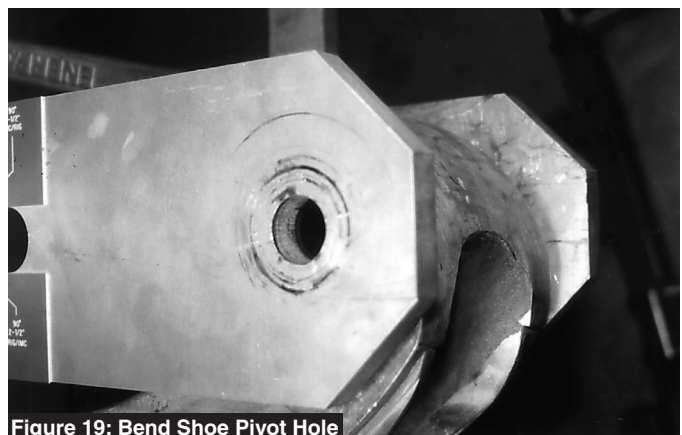

Figure 19: Bend Shoe Pivot Hole
6. Move the bend shoe to align the pivot hole with the hole at the end of the lower frame. Figure 19.